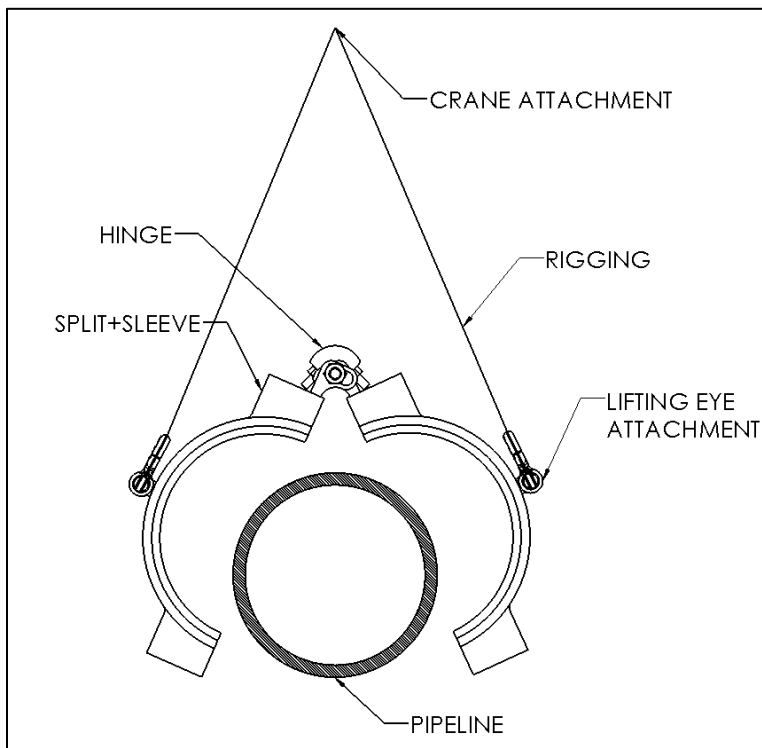

Figure 12
3. Attach properly sized rigging such as chains, cables, or straps to a single point crane attachment. The rigging should be sufficiently long enough that the rigging doesn't interfere with opening and closing of the fitting as shown in Figure 12.
4. Lift the fitting up from the single point crane attachment. The Split+Sleeve will open up as shown in Figure 12.
5. Position the fitting over the pipeline and slowly lower the fitting onto the pipeline as shown in Figure 12. The inside of the fitting should come in contact with the pipeline, and the fitting will start to close as it is lowered. Some fittings may require some additional side force to close the fitting around the pipe. Keep all body parts clear of the inside of the fitting at all times as the fitting is being lowered onto the pipe. This is to ensure safety in the event the that the fitting slams closed rapidly.